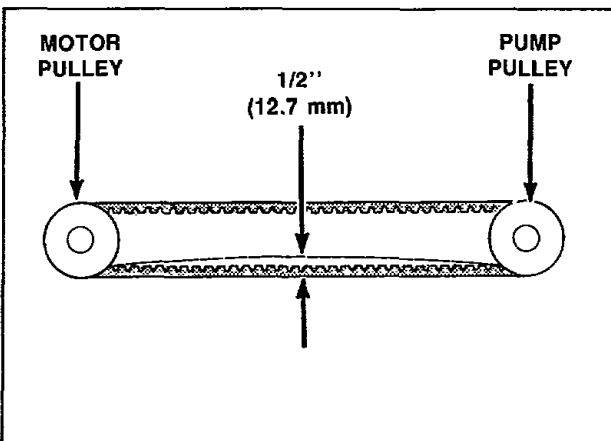

Figure 61
- c. Shift front of pump mounting bracket to the right or left to obtain proper belt tension. Proper tension is when belt can be deflected approximately 1/2 inch (12.7 mm) from its normal position by applying moderate pressure (1-1/2 pounds - .675 kg.) to a point midway between pulleys, *Figure 61*.